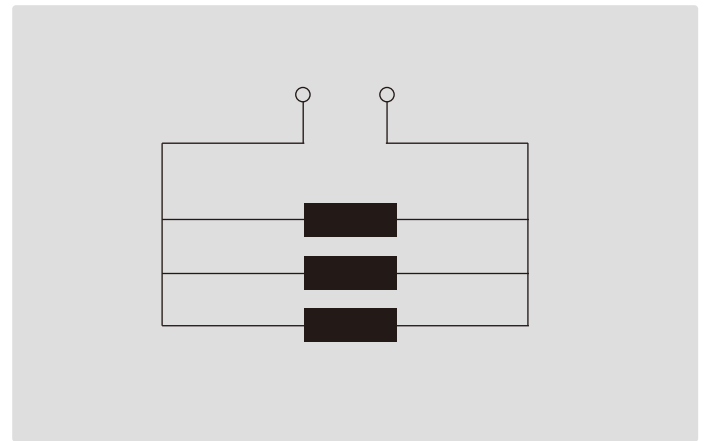

Fig.1 Single-phase parallel connection
1. Single-phase parallel connection (Fig.1)